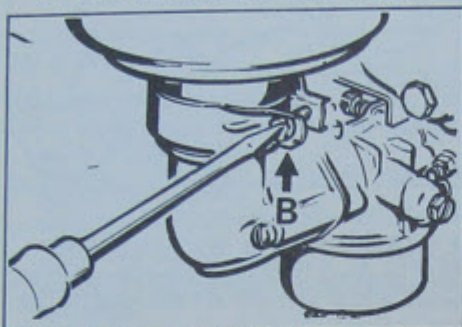

Fig. 11 Removal of the bowl
- Remove the filter bowl from engine by slackening the clamp screw attaching this to the manifold (see B in Fig. 11).